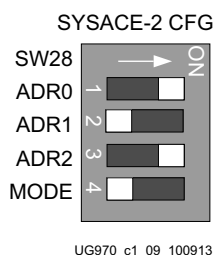

Figure 1-9: Configuration Address DIP Switch (SW8)
4. Select the GTH IBERT demonstration with the System ACE™ tool SD controller SYSACE-2 CFG switch, SW28. The setting on this 4-bit DIP switch (Figure 1-9) selects the file used to configure the FPGA. A switch is in the ON position if set to the far right and in the OFF position if set to the far left. For the Quad 115 GTH IBERT demonstration, set ADR2 = OFF, ADR1 = OFF, and ADR0 = ON. The MODE bit (switch position 4) is not used and can be set either ON or OFF.